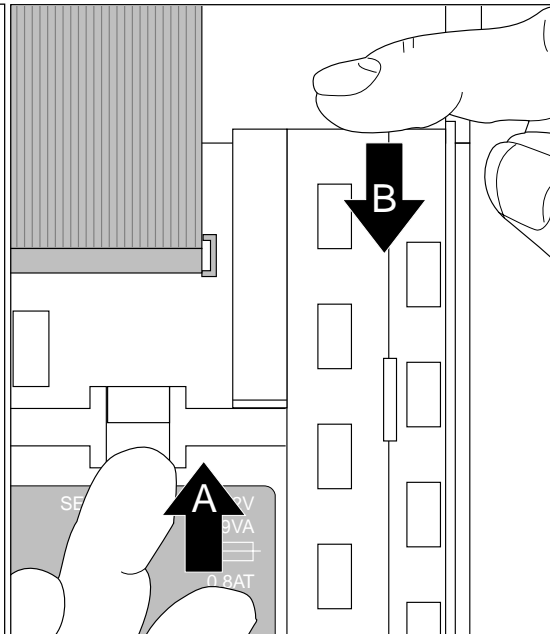

Fig. 13: Dismantle other tubes
5. Push partition upwards with one hand (**A**) and if necessary remove the other tubes in the following order: middle, left, right (**B**) (see fig. 13).